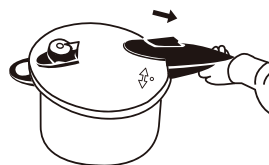

Fig. 6
3. Push the pressure plate backwards, towards the marking on the lid handle, to ensure that it is completely closed (Fig. 6).